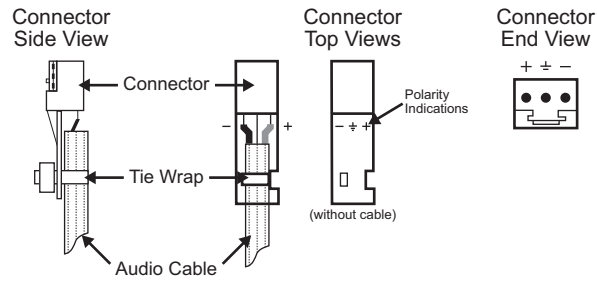

Figure 2.5 Connector Wiring for 8310AR-037 and 8320AR-037 Input Sockets
1. Insert an analog audio wire to the designated polarity slot on the connector of the rear module. **Figure 2.5**